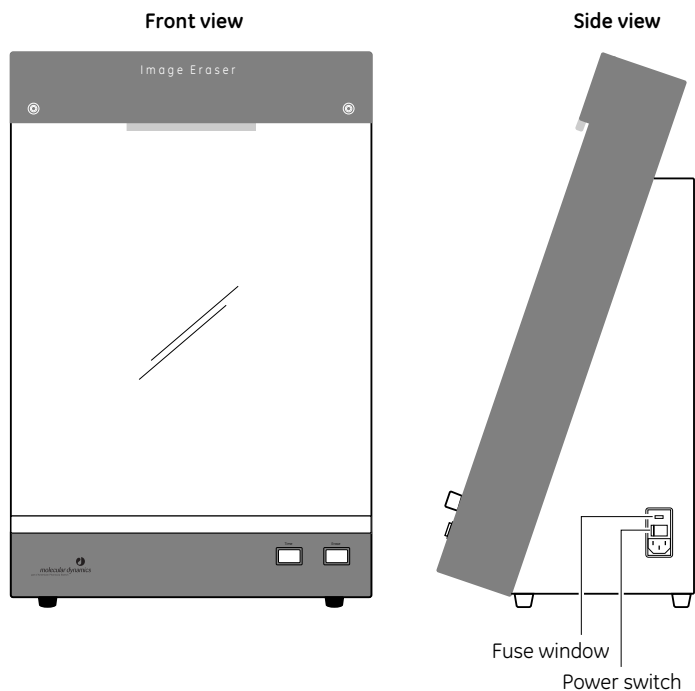

Fig 14-1. The Image Eraser.
- 1 Turn off the Image Eraser and disconnect the power cord (fig 14-1).
- 7 Reconnect the power cord and turn on the Image Eraser (fig 14-1).
You can use the Image Eraser with either a 220–240 V (230 V) power source or a 100–120 V (115 V) power source. The selected operating voltage of the Image Eraser appears in the fuse window on the lower right side of the eraser, next to the power switch (fig 14-1).
- 9 Reconnect the power cord and turn on the Image Eraser (fig 14-1).